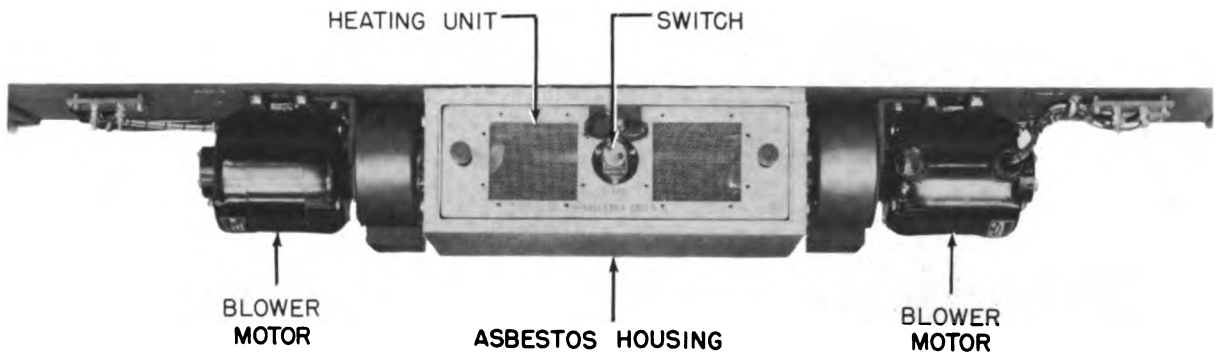

Figure 4-54. Antenna heater.
b. Maintenance Procedure (fig. 4-54).